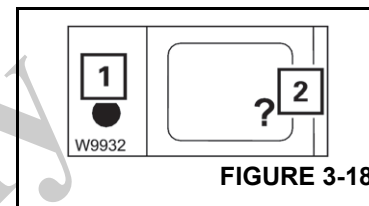

FIGURE 3-18
To determine what the error is, you must open the Error submenu by pressing the ? button (2) (Figure 3-18). The button is only active when the lamp (1) flashes or lights up.